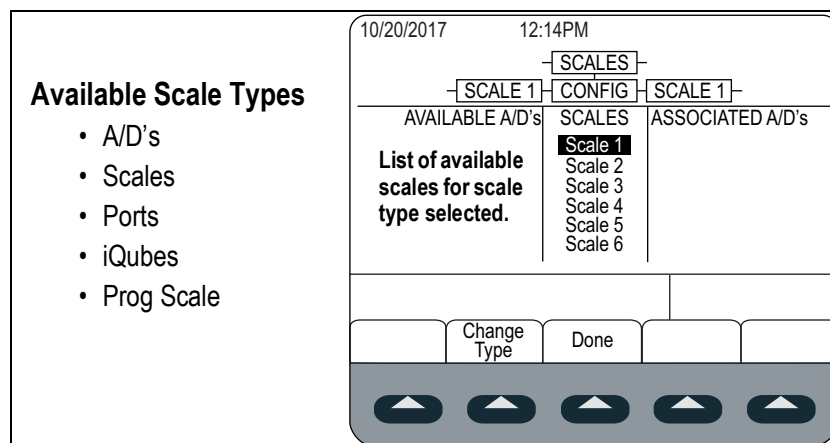

Figure 4-3. Scale Configuration Display
4. Press . Figure 4-3 displays.